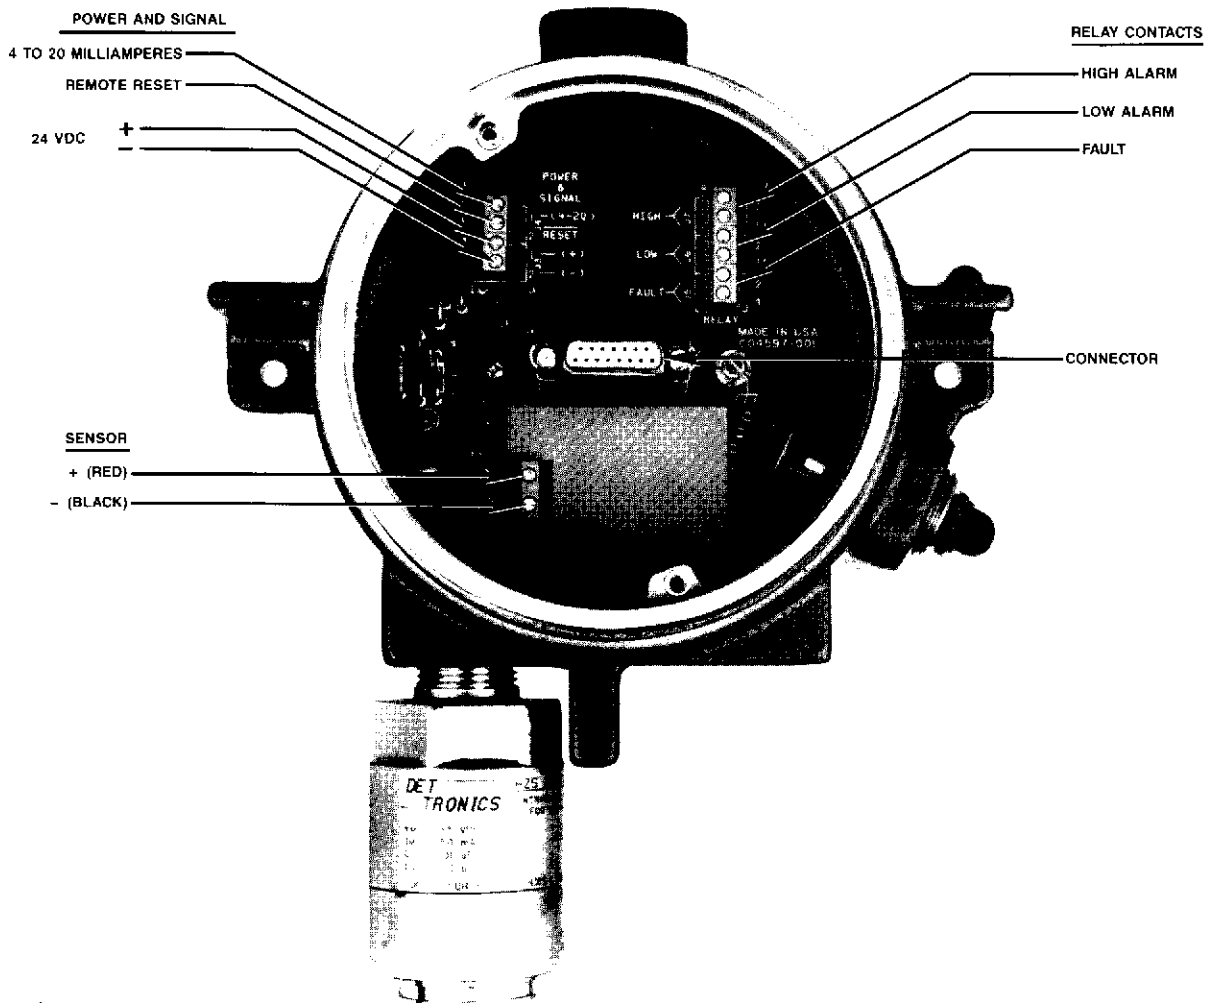

Figure 5—System Wiring
7. Attach the C7064C Sensor to the U8800 as shown in Figure 5. It must be tight (minimum of five fully engaged threads) to ensure an explosion-proof installation. Connect the leadwires from the C7064C to the screw connectors on the terminal block marked "Sensor."